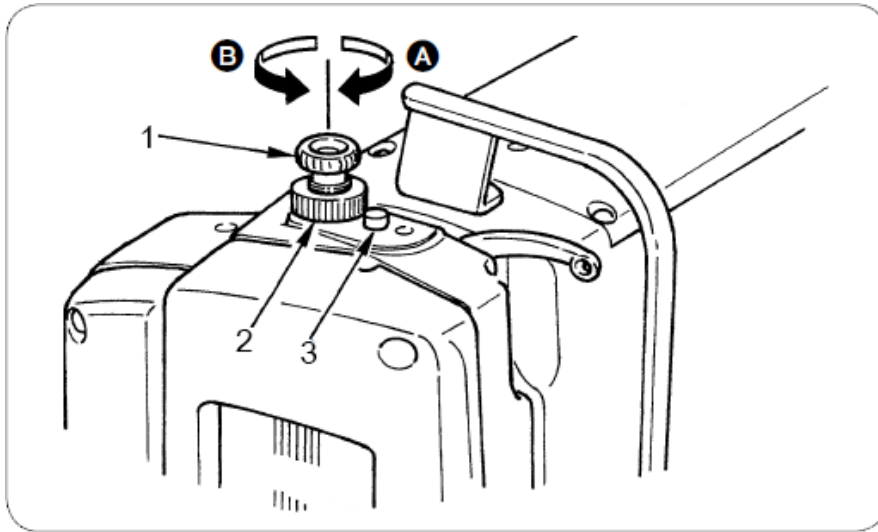

Figure 29
- To increase the outer foot pressure, loosen nut (Fig 29, Item 2) and turn the pressure dial (Item 1) clockwise the right. Then tighten nut 2
- To decrease the outer foot pressure, loosen nut (Fig 29, Item 2) and turn the pressure dial (Item 1) counterclockwise the left. Then tighten nut 2
- To increase the inside foot pressure, tighten screw (Fig 29, Item 3) by turning the screw clockwise.
- To decrease the inside foot pressure, loosen screw (Fig 29, Item 3) by turning the screw counterclockwise.
- *When adjusting your inside foot pressure, be careful not to loosen the screw (Fig 29, Item 3) too much. There is no lock on this screw and you may cause damage or lost parts by loosening the screw too far.*